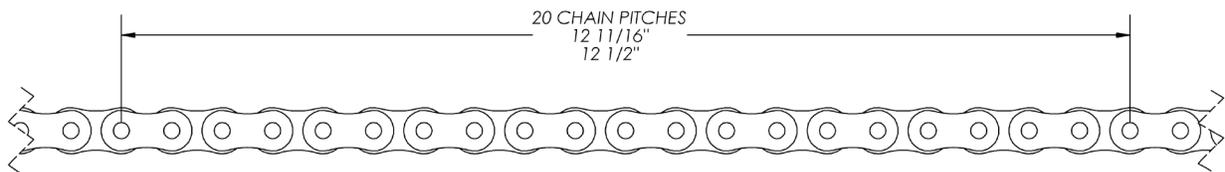

Figure 26: Chain Pitch Measurement
1. Periodically (every 6 months or 2,000 hours of operation) clean and lubricate the takeup chain (52) and connecting links (53) with an SAE 30 (ISO 100) gear and chain oil.
- a. Measure a distance of 20 chain pitches, center-to-center, with the chain under moderate tension, to determine chain wear. A new chain will measure 12 1/2", and a fully worn chain will measure 12 11/16". See Figure 26: Chain Pitch Measurement.